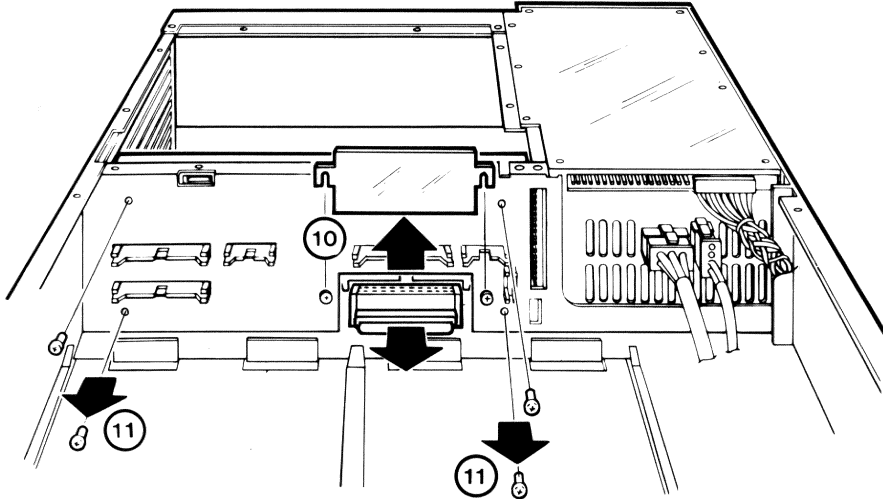

Figure 6-14 Backplane Removal (Steps 10 and 11)
10. Loosen the two screws retaining the small access cover. Remove the cover and disconnect the cable from side two of the backplane. (Figure 6-14)